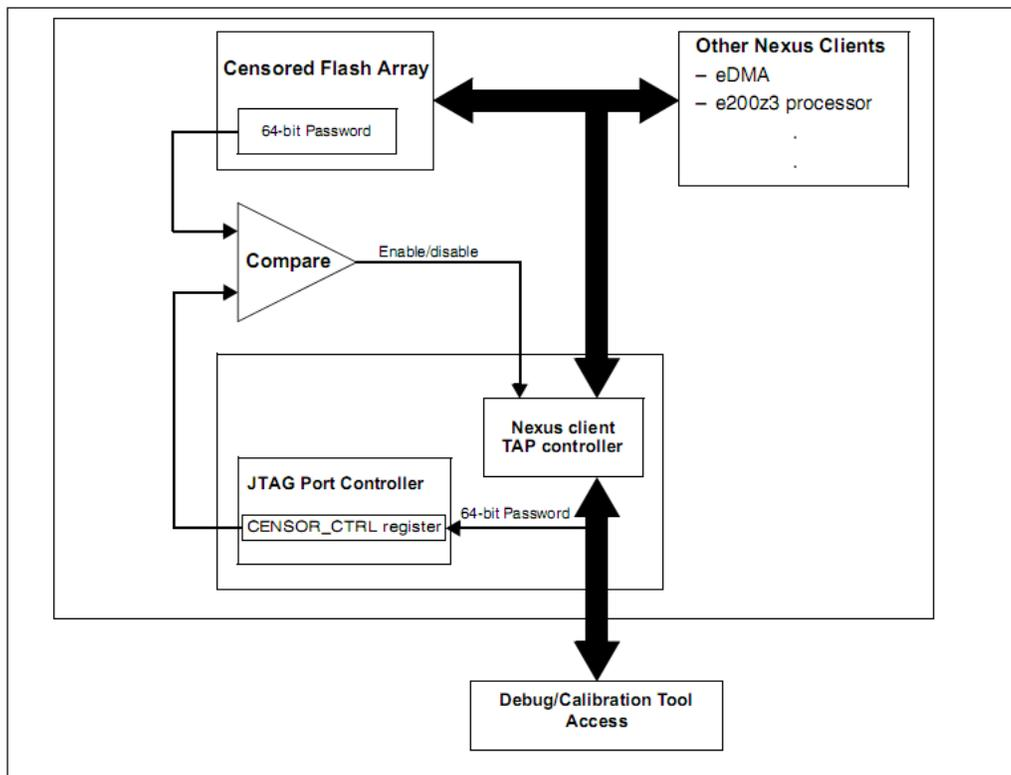

Figure 14. Uncensoring the MCU using JTAG
- A mechanism for uncensoring the MCU has been implemented via the JTAG port. The mechanism provides similar functionality to the CAN or eSCI port on the MPC556x, with respect to censorship. Figure 14 shows a high level overview of how a censorship password being supplied serially via TDI, during reset, can un-censor the MCU.